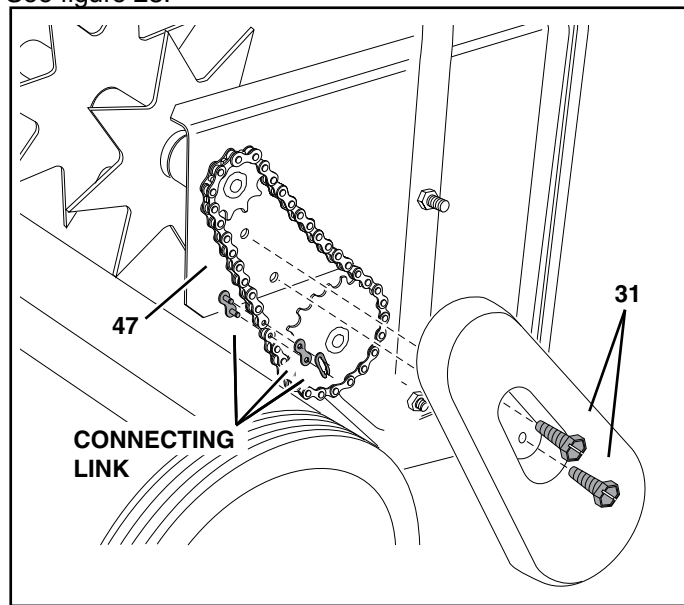

FIGURE 23
- Remove connecting link from chain and assemble the chain (47) onto the two sprockets on the left side of the hopper. Fasten the ends of the chain together using the connecting link. See figure 23.
- Place the chain cover over the chain and fasten it to the hopper end plate using two self tapping screws (31). See figure 23.